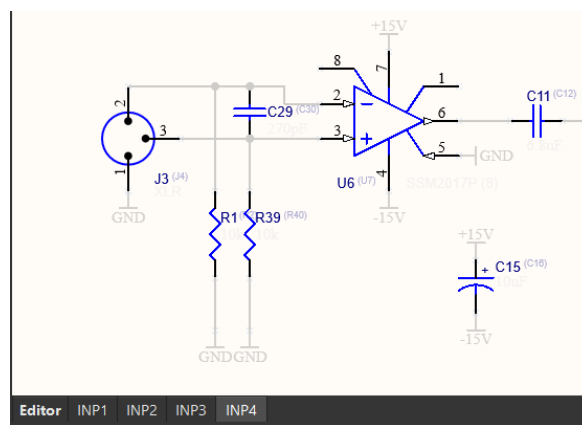

Figure 10. Back-annotate schematics synchronized with the PCB
30. Open the `Input Channel.SchDoc` file and examine designators in all the tabs. Note the superscript numbers. The displayed value in the compiled tab corresponds to the value on the PCB, and the superscript value is the value in the Editor tab, as seen in Figure 10.